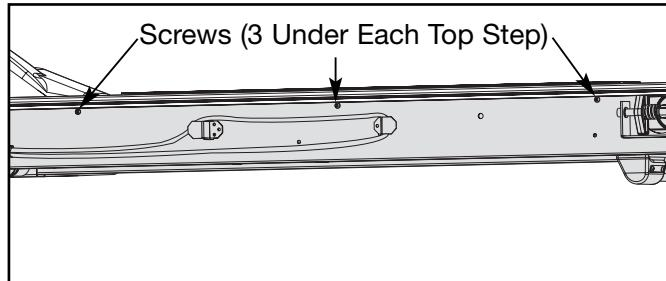

Figure 4
A. Using a Phillips head screwdriver, remove the three screws that hold each top step in place. See Figure 4.
- A.** Place each top step in position. See Figure 4.
- B.** Using a Phillips head screwdriver, tighten the three screws that hold each top step in place. See Figure 4.